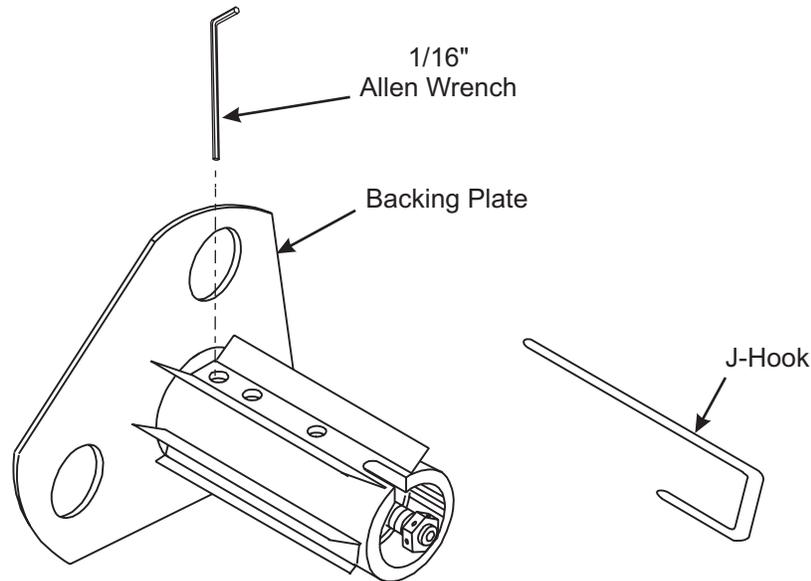
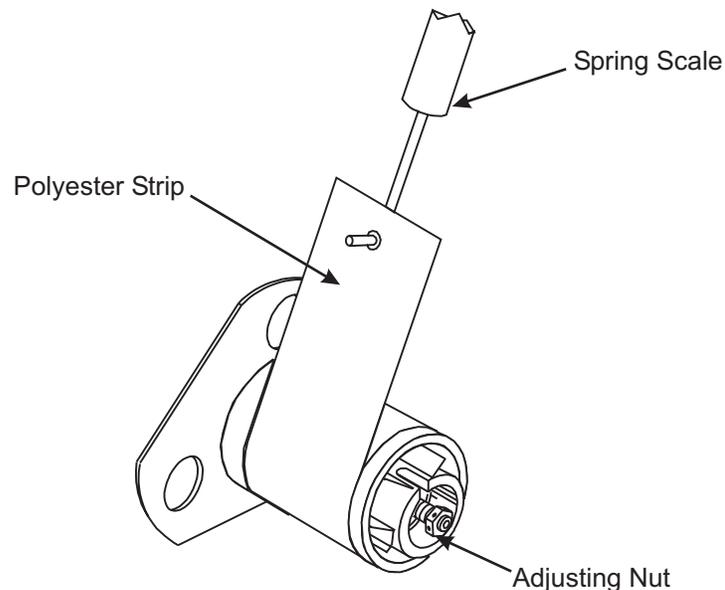

Figure 6-12. Position Adjustment of Rewind Spindle Assembly
Figure 6-13. Tension Adjustment of Rewind Spindle Assembly
Refer to Figure 6-12 and Figure 6-13.
6. Refer to Figure 6-12. Loosen the set screws in the collar located inside the rewind spindle assembly near the backing plate. The set screws are accessible through a single hole in the rewind spindle assembly. Reposition the backing plate as required and retighten the set screws in the collar.
1. Refer to Figure 6-13. Use a spring scale gauge to set the spindle tension. Use adhesive tape to attach a 2-inch wide by 30-inch long (5 cm wide by 17 cm long) strip of polyester film to the spindle in the direction shown.